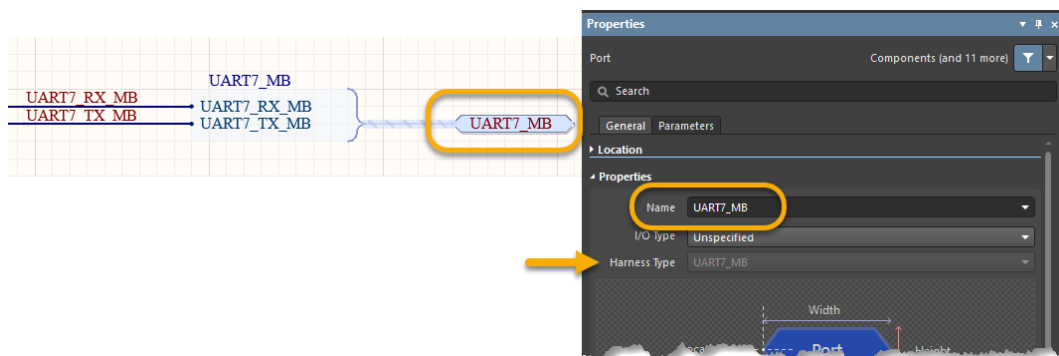

Figure 11. UART7\_MB Harness structure (Connector, Entry, Signal and Port).
- d) Click the **Pause** icon (II) to continue placing the Port.
- h) Now that the Port is placed and attached to a Signal Harness, it will be automatically be updated with the graphical information for the Harness and the correct Harness Type Information. Your result should be similar to Figure 11.